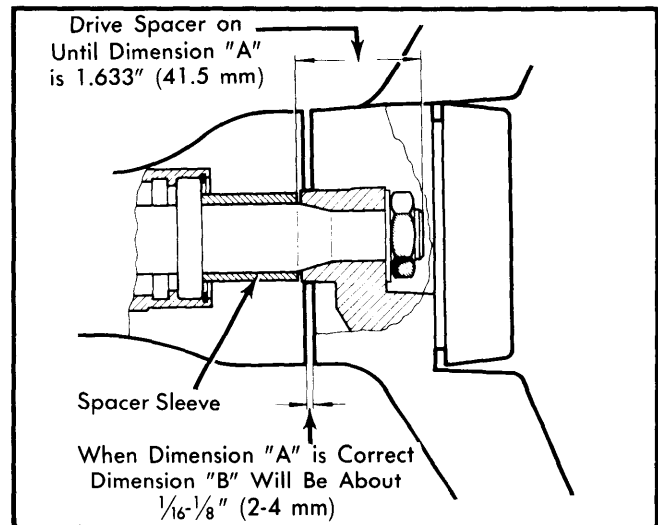

Fig. 2 Dimensions for Installing Spacer Sleeve
5) Put ignition key in "ACC" position. Use a small pointed tool to press down stop pin on side of cylinder to free the mechanism. Pull cylinder from housing. (Fig. 2)
Installation — Refit switches together with screw and spacer sleeve. Slide switch assembly onto column and hook up wires. Refer to Fig. 2 for how far to drive on spacer sleeve.